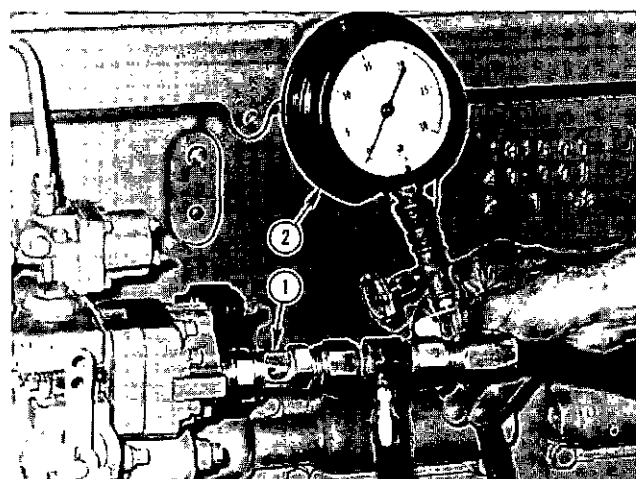

Fig. 2-24 (N11917) Checking fuel filter restriction with ST-434 Vacuum Gauge
Connect ST-434 Vacuum Gauge to fuel pump as shown in (2), Fig. 2-24 using special adapter furnished. If restriction reads 8 to 8.5 inch [20.3 to 21.6 cm] vacuum while engine is running at full speed and load, change element or remedy source of restriction.